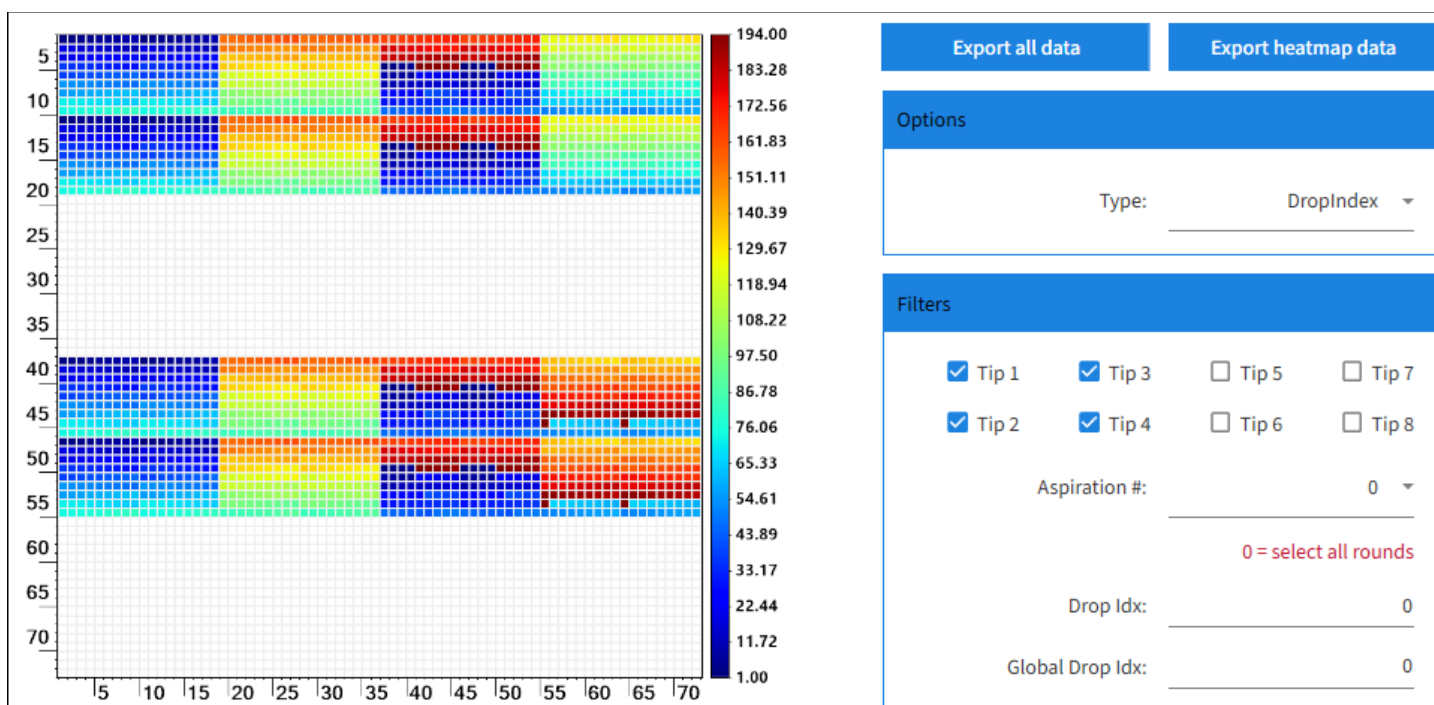

Figure 64. Example of filtering by tip number, visualizer *Chip Map* tab. The chip heat map is displaying only the wells dispensed to by Tips 1–4.
- Tip 1–8—the checkboxes enable or disable the display of data from a specific tip nozzles. Figure 63 shows a view of the tip nozzle assembly as seen from the open door of the Shasta instrument with two of the tips in the foreground labeled (Tip 2 and Tip 8). Table 5 shows a map of the tip nozzle assembly if viewed from the top down, with the tip numbers identified by their position within the assembly. Figure 64 shows an example heatmap when filtering by tip number.